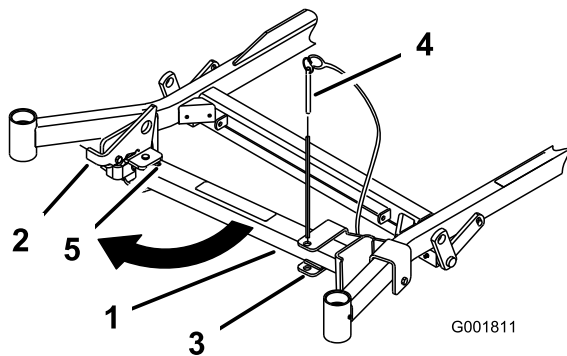
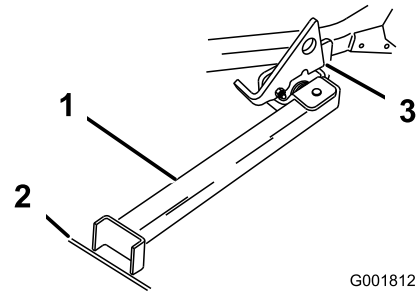

Figure 30
Figure 31
2. Remove the bracket pin (Figure 30).
3. Raise the latch. Swing the stand foot out front and slide stand toward machine, into the bottom of slot (Figure 30 and Figure 31).
4. Set the foot of stand on the ground and rest the latch on the pivot tab (Figure 31).
- Note:** For best results, place the foot of stand into seams in sidewalks or into the turf (Figure 31).
6. Drive onto the stand. Stop when the latch drops over the tab into the locked position (Figure 31). Once onto the stand, engage the parking brake and turn off the engine.
5. Return the stand to its rest position (Figure 30).